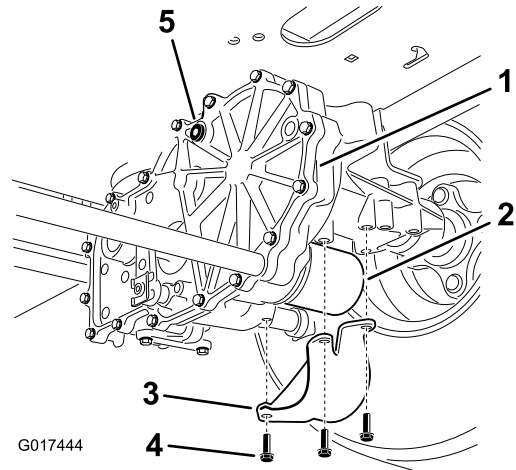

Figure 68
2. Locate the filter and guards on each transaxle drive system (Figure 68). Remove three screws securing the filter guard and guard.